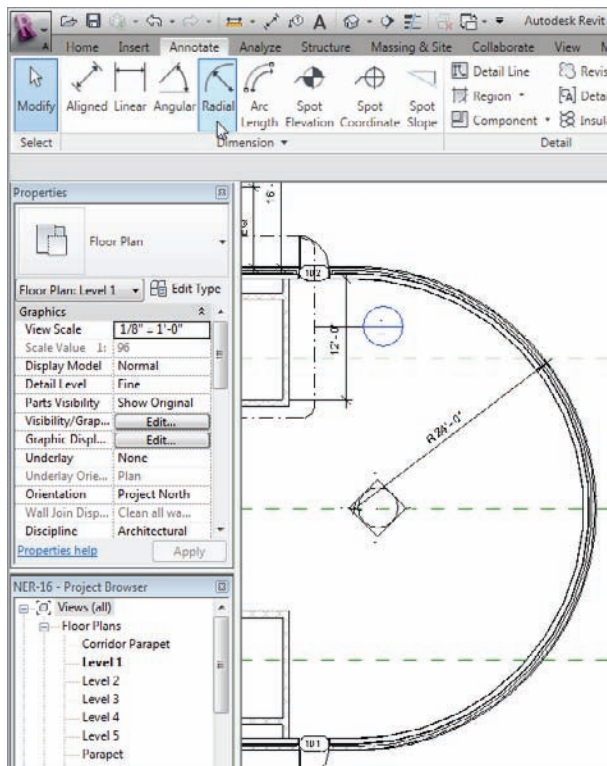

FIGURE 5.21 Adding a Radial dimension is about as straightforward as it gets.
3. Pick the outside face of the radial wall, as shown in Figure 5.21.
4. Place the Radial dimension somewhere that makes sense. If your model looks like Figure 5.21, you may proceed. If it does not, go back and try it again.